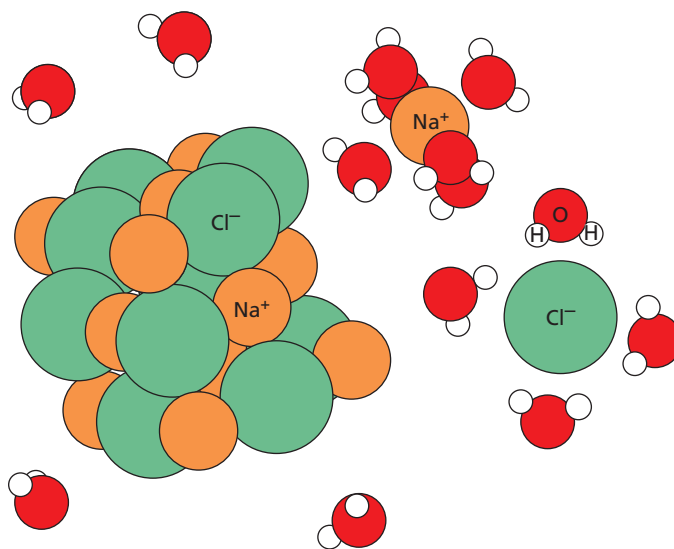

Figure 3.17 Salt (an ionic compound) dissolving in water.
- They mainly dissolve in water. This is because water molecules are able to bond with both the positive and the negative ions, which breaks up the lattice and keeps the ions apart. Figure 3.17 shows the interaction between water molecules (the solvent) and sodium and chloride ions from sodium chloride (the solute). For a further discussion of the solubility of substances see Chapter 8 (p. 129).